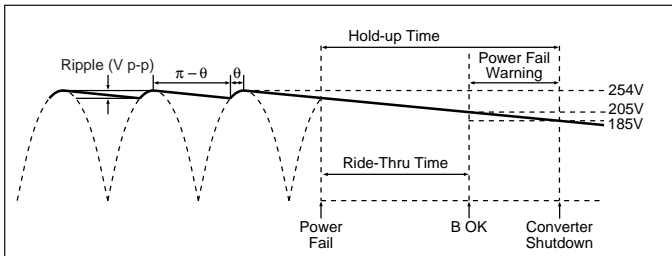
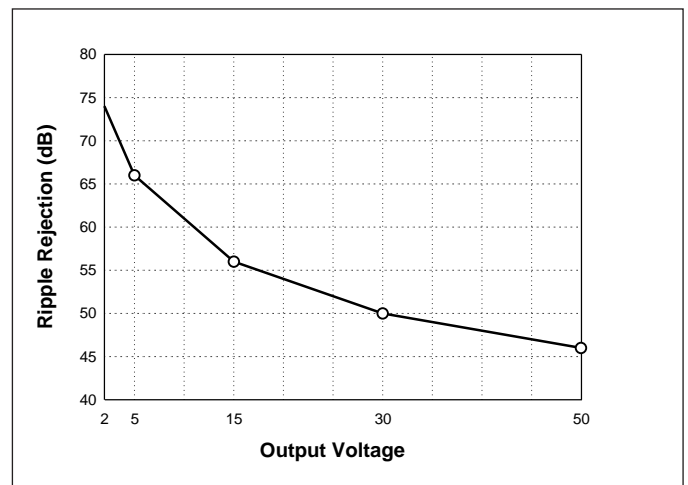

Figure 13—Hold-up time
Figure 17—Converter ripple rejection vs. output voltage
Hold-up capacitor values should be determined according to output bus voltage ripple, power fail hold-up time, and ride-through time (see Figure 13). Many applications require the power supply to maintain output regulation during a momentary power failure of specified duration, i.e., the converters must hold-up or ride through such an event while maintaining undisturbed output voltage regulation. Similarly, many of these same systems require notification of an impending power failure in order to allow time to perform an orderly shutdown.
The power fail warning time (Δt) is defined as the interval between BOK and converter shutdown (EN) as illustrated in Figure 13. The Bus-OK and Enable thresholds are 205V and 185V, respectively. A simplified relationship between hold-up time, operating power, and bus capacitance is obtained by inserting these constants in equation (3):
For example, a converter whose output is 15V and nominal input is 300V will provide 56dB ripple rejection, i.e., 10V p-p of input ripple will produce 15mV p-p of output ripple (see Figure 17). Equation 3 is again used to determine the required capacitance. In this case, V_1 and V_2 are the instantaneous values of bus voltage at the peaks and valleys (see Figure 13) of the ripple, respectively. The capacitors must holdup the bus voltage for the time interval (Δt) between peaks of the rectified line as given by:
Figure 17 is used to determine the ripple rejection of the DC-DC converter and indicates a ripple rejection of approximately 60 dB for a 12V output. Since the ripple on the bus voltage is 12Vac and the ripple rejection of the converter is 60 dB, the output ripple of the converter due to ripple on its input (primarily 120 Hz) will be 12mV p-p. Note that 2nd Generation converters have greater ripple rejection than either VI-200s or VI-J00s.